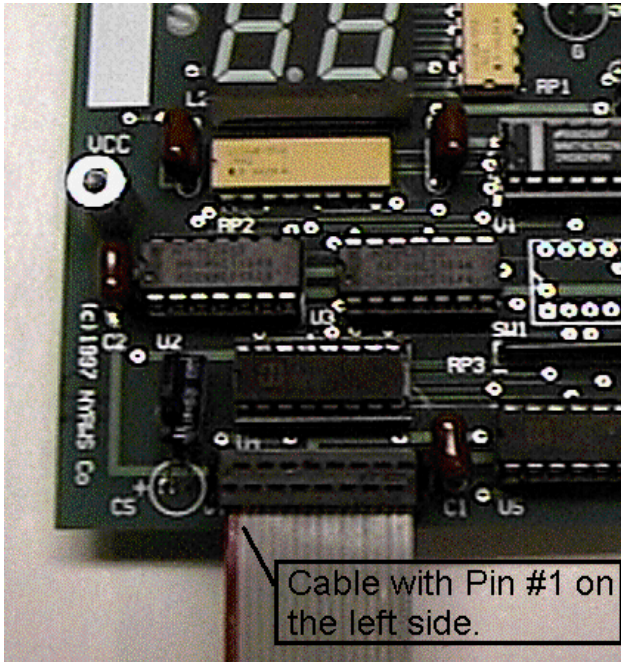

Figure 4: Controller Cable Connection
8. Connect the flat ribbon Track Selector to Controller Cable to connector J1 on the Keypad Selector Module. Connector J1 is noted on the Selector Module PCB. The marked edge of the cable must be oriented to line up with the Pin 1 on J1, which is located on the left side. Reference Figure 4:
12. Locate the four 4-40 x 3/4" Philips pan head screws, washers, and nuts in the Hardware Kit. Referring to Figure 4, install the screws, washers, and nuts, securing the Keypad Selector Module to the fascia. Note: The 3/4" screws are provided to facilitate installation of the Keypad Selector Module in panels up to 5/8" thick.